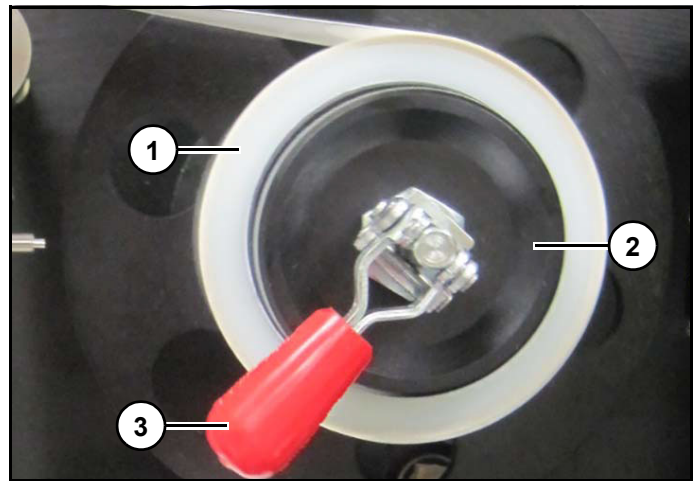

Figure 4
2. Load tape spool (1) on tape spindle (2). (Figure 4)
3. Push handle (3) (Figure 4) down to clamp spool to spindle.